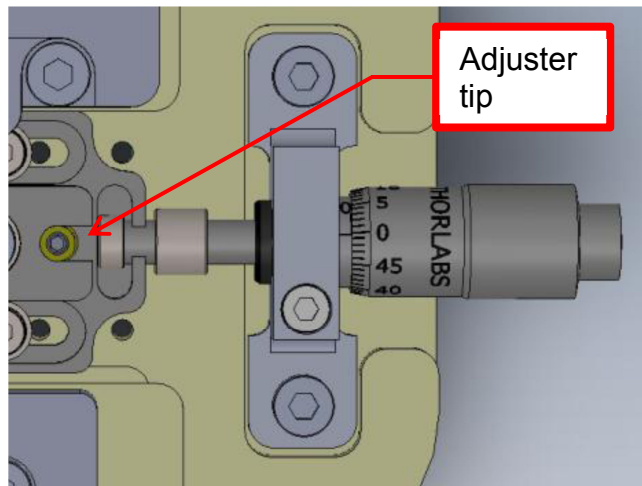

Figure 21 Mode Hop Adjuster Tip
Step 14: In the body of the pivot bracket, there is a flexure (hinge) that adjusts the tilt of the mirror (Figure 21). As you adjust the fine setscrew, the coupling efficiency for the diffracted light returning from the mirror back into the gain chip will vary. Back off the motor and with a finger on the end of the grating arm, swing the arm back and forth while observing the output from the fiber* (on a sensor card or equivalent) – also while adjusting the fine setscrew. At some point a large increase in output intensity should indicate lasing action. If this is not observed then it may simply mean that we are adjusting in the wrong direction and the flexure hinge needs to be closed slightly rather than opened. In this case, slacken off the fine set screw and swing the grating arm again while this time adjusting the M4 ‘tensioning’ bolt. When very close to the optimal flexure angle, an alternating sequence of optimizing the laser intensity by adjusting the fine set screw and then tensioning the M4 bolt should lead to a strong output, coupled with a setting for good overall stability. In this alternating sequence adjustment of the fine setscrew should always be able to counteract the effect of the last adjustment of the tensioning bolt; the adjustment should stop just short of the point where this sequence starts to falter, as this is a sign that the tensioning is too much, and that slight distortion of the pivot bracket itself is beginning to occur.